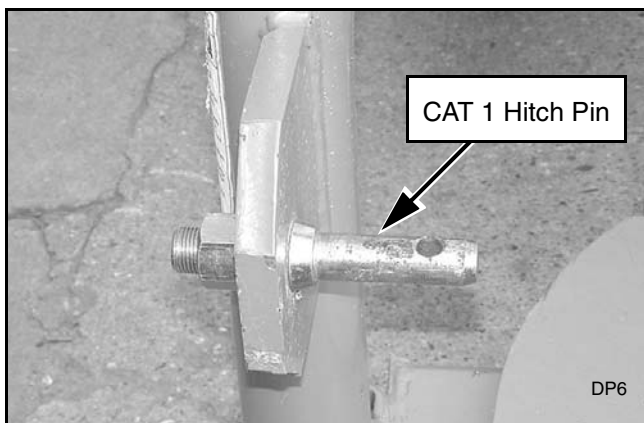

Figure 4. Category 1 Hitch Pin Installed (Right Side)
2. Grease both fittings on the swivel assembly as shown in Figure 4.
Install hitch pin on the **inside** of 3-point attachment bracket as shown in Figure 4. Secure with lock washer and hex nut.